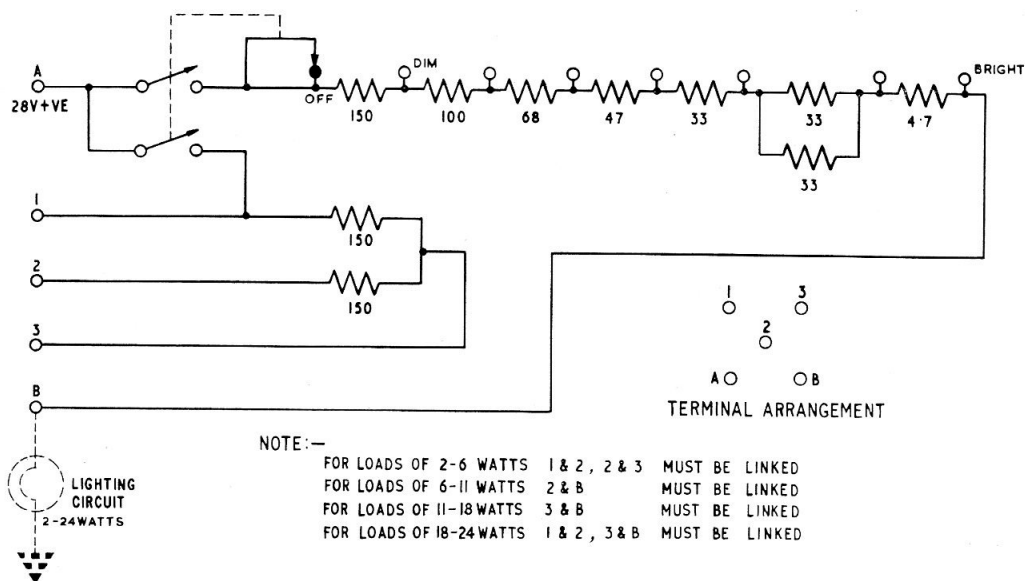

Fig. 1. Circuit diagram
2. A two-gang, 9-position switch is wired as shown in figure 1 to provide step control of lighting intensity on four ranges of loads as determined by the positions of the terminal links.